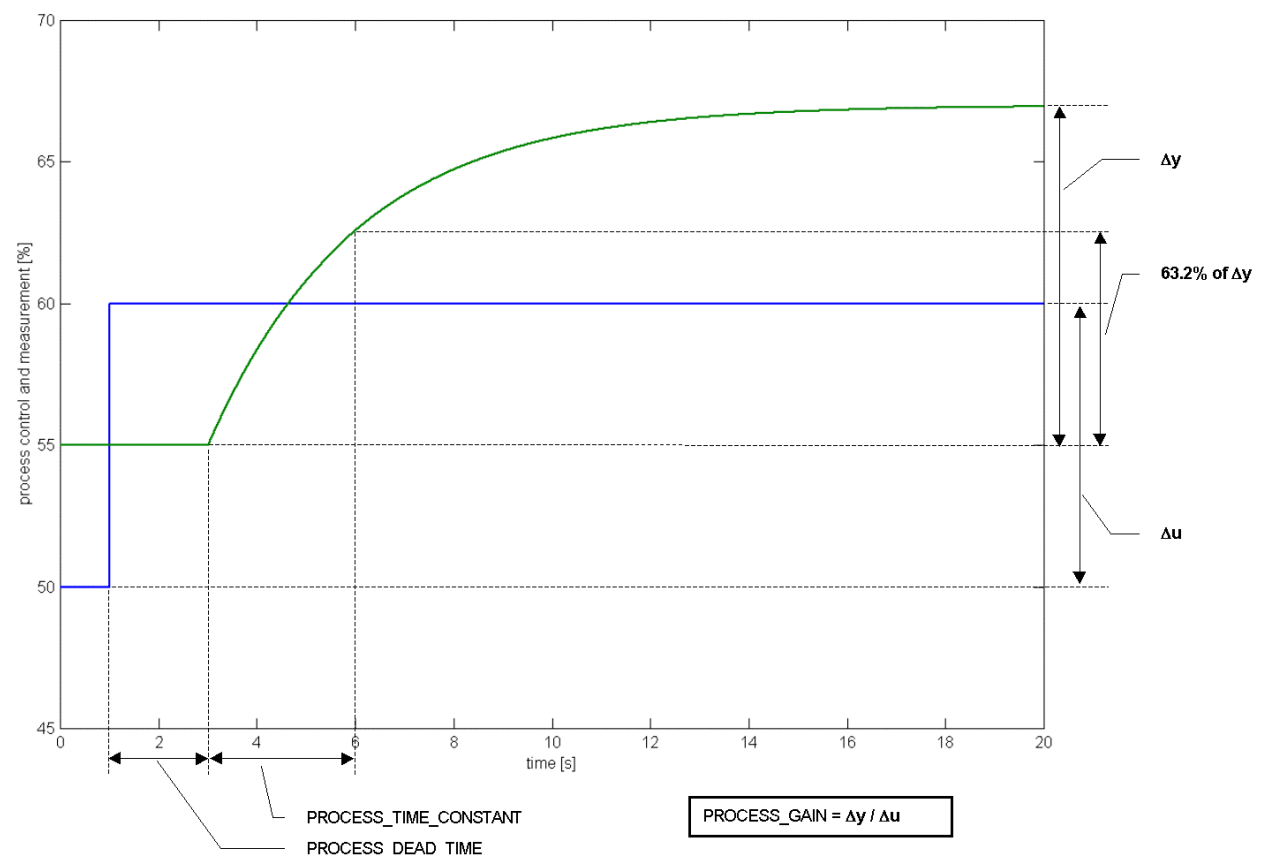

Figure 14. First order and dead time process step response.
- TUNING_PROCESS_GAIN - Process gain estimate. Dimensionless. See figure 14.
- TUNING_PROCESS_TIME_CONSTANT - Process time constant estimate, in seconds. See figure 14.
- TUNING_PROCESS_DEAD_TIME - Process dead time estimate, in seconds. See figure 14.